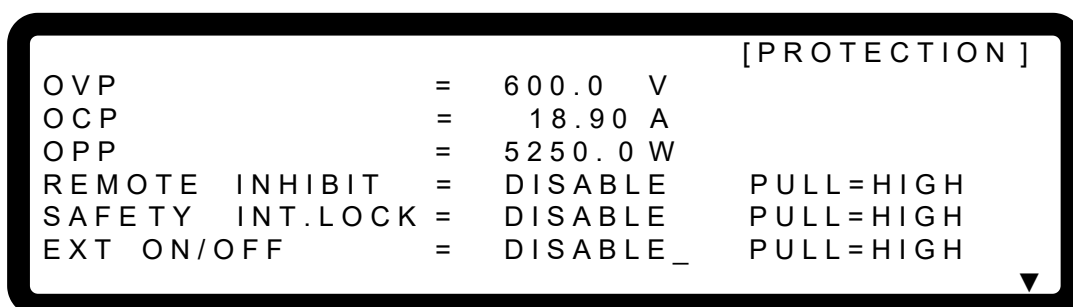

Figure 3-73
- Use “” and “” keys to move the cursor to the column to be set as Figure 3-73 shows.